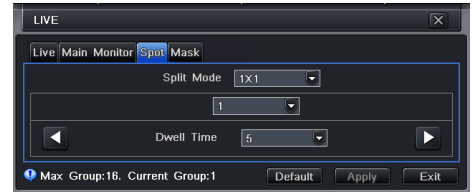

Fig 4-9 Live Configuration-Spot
Step1: Enter into Menu→Setup→Live→Spot tab. Refer to Fig 4-9: